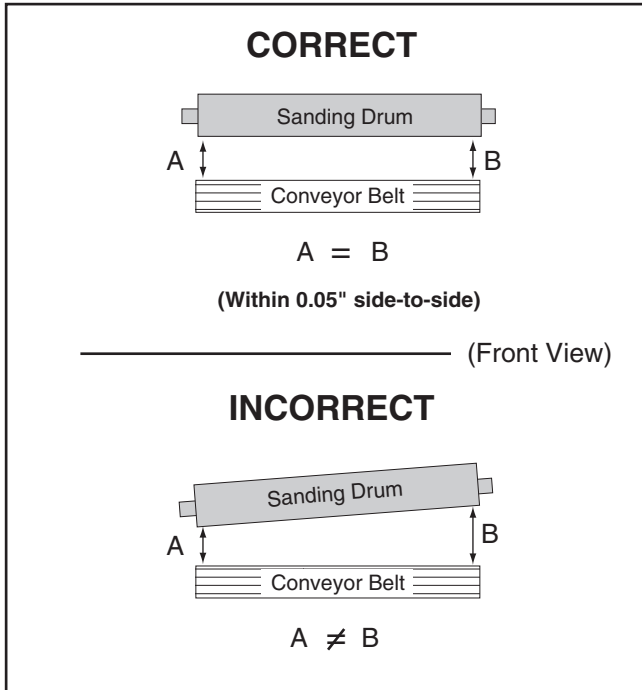

Figure 34. Illustration of conveyor belt to sanding drum parallelism.
To ensure good sanding results, the conveyor belt and sanding drum must be parallel with each other from side to side (see the illustration in **Figure 34**). Otherwise, more material will be removed from one side of the workpiece than the other.
4. Make measurements at "A" and "B" as indicated in **Figure 34**.